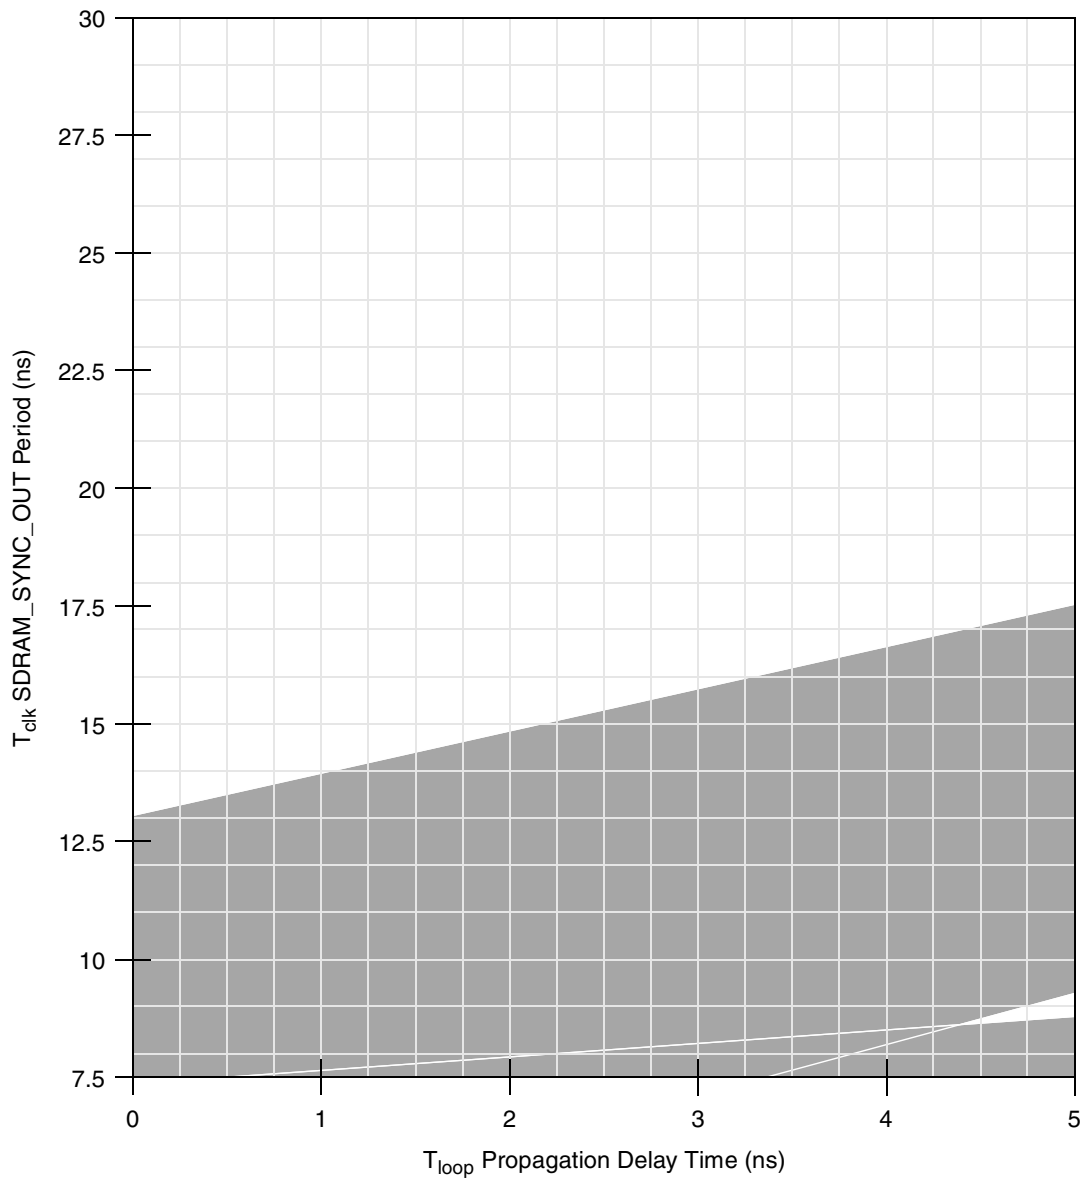
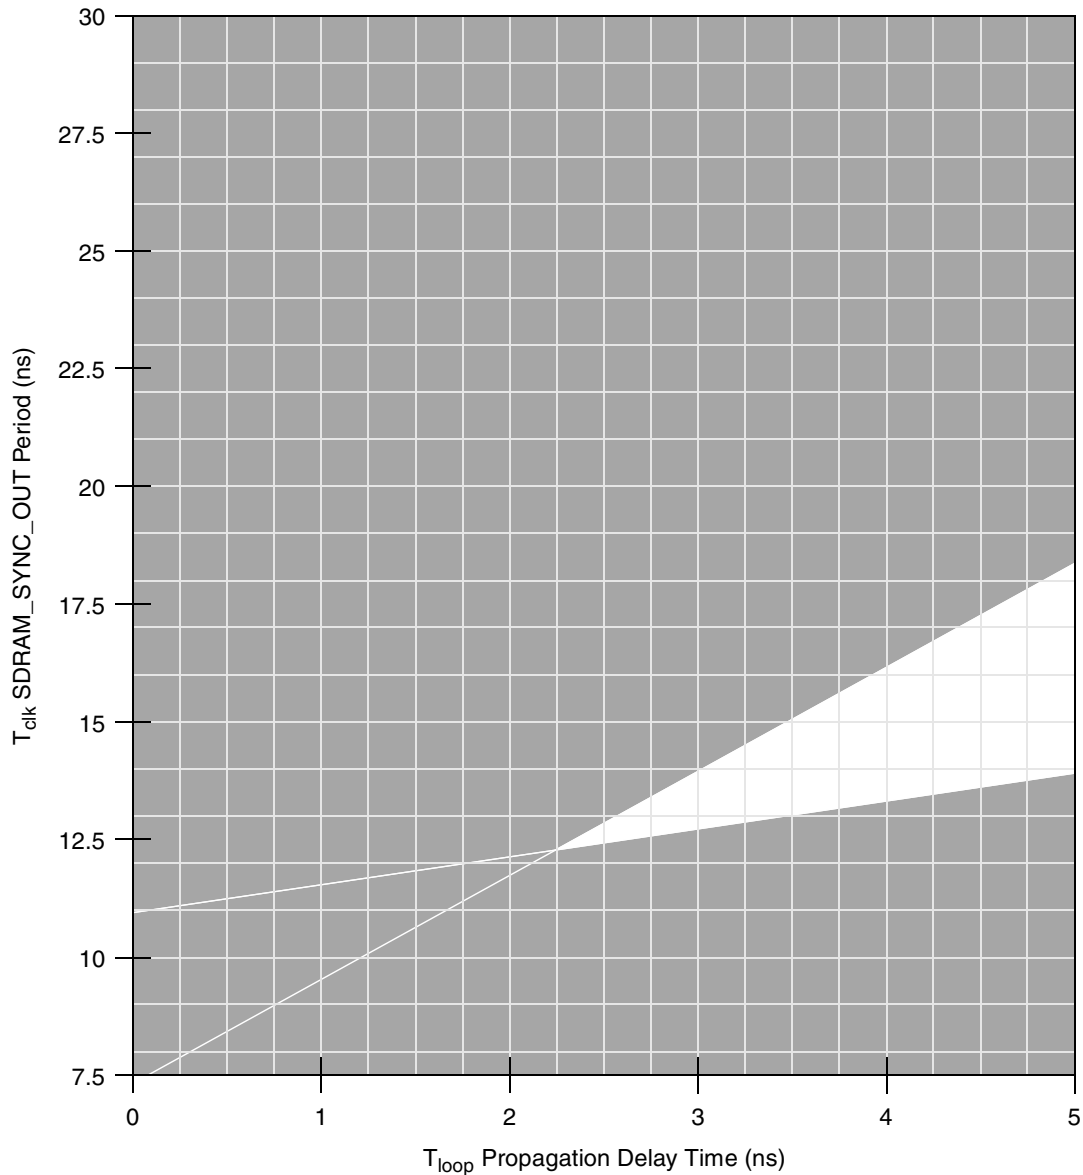

Figure 7. DLL Locking Range Loop Delay versus Frequency of Operation for DLL_Extend=0 and Normal Tap Delay
Figure 10. DLL Locking Range Loop Delay versus Frequency of Operation for DLL_Extend=1 and Max Tap Delay
6. DLL_EXTEND is bit 7 of the PMC2 register <72>. *N* is a non-zero integer (see Figure 7 through Figure 10). T_{clk} is the period of one SDRAM_SYNC_OUT clock cycle in ns. T_{loop} is the propagation delay of the DLL synchronization feedback loop (PC board runner) from SDRAM_SYNC_OUT to SDRAM_SYNC_IN in ns; 6.25 inches of loop length (unloaded PC board runner) corresponds to approximately 1 ns of delay. For details about how Figure 7 through Figure 10 may be used, refer to the Freescale application note AN2164, *MPC8245/MPC8241 Memory Clock Design Guidelines*, for details on MPC8241 memory clock design.
Figure 6 shows the PCI_SYNC_IN input clock timing diagram, and Figure 7 through Figure 10 show the DLL locking range loop delay versus frequency of operation.